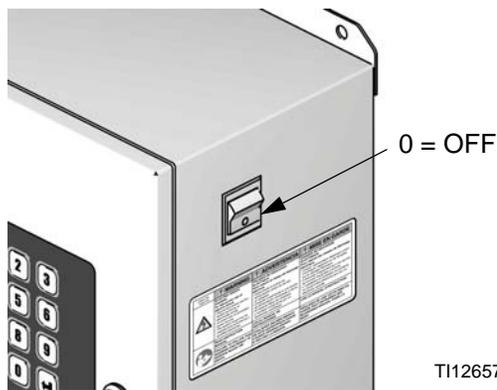

FIG. 2: Power Off
1. Shut off ProMix 2KS power (0 position). FIG. 2. Also shut off power at main circuit breaker.
2. Connect the line (L) and neutral (N) wires from a 100-240V, 45-65 Hz, AC power source to the 24V power supply as shown.
3. Use the two lengths of 16 AWG wire (18, provided) to connect the power supply (4) to the gateway (10), as shown.